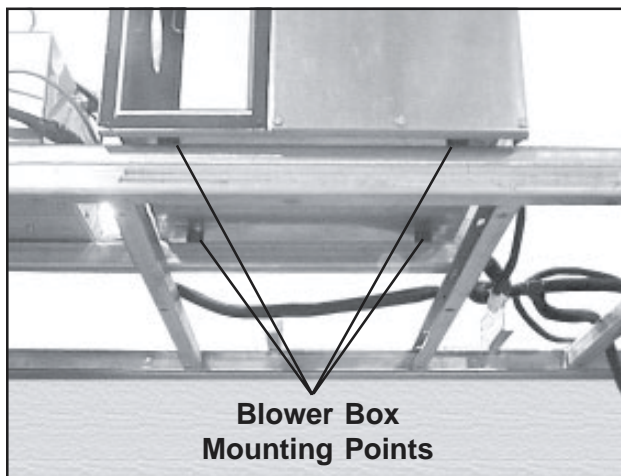

Figure 7. Blower Box On Base Frame
4. Loosely, secure this box to the base frame with four screws and washers (Figure 7).